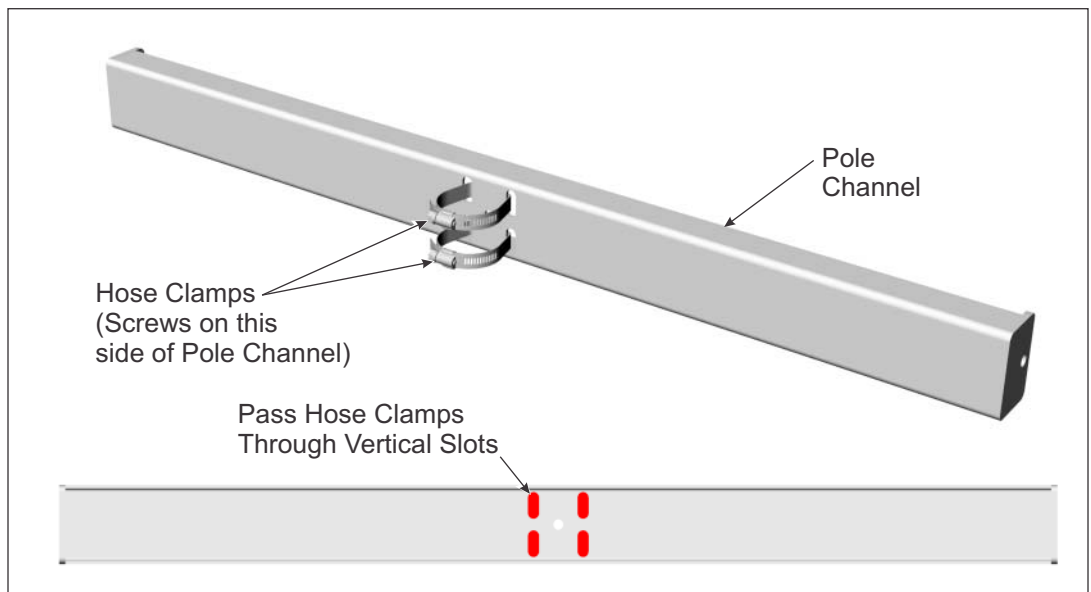

Figure 1-2: Installing Hose Clamps on Pole Channel
- A. Unscrew the two Hose Clamps and pass the loose ends through the two vertical slots of the Pole Channel, positioning the screw housing on the backside of the Pole Channel. Secure the loose end by screwing them back into their screw housing. Do this on both Pole Channels. (See Figure 1-2)